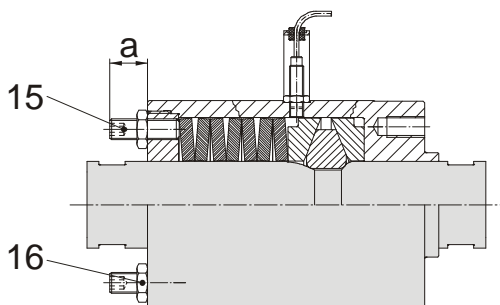

Fig. 5 (sizes 5 – 8)
(only with sizes 5 – 8 / illustr. page 6, Fig. 5) |
There are 4 or 6 set screws (15) in the adjusting nut (6), which are adjusted to the dimension "a" (Fig. 5). Locking the set screws (15) with hexagon nuts (16) prevents any self-acting changing of the adjustment.